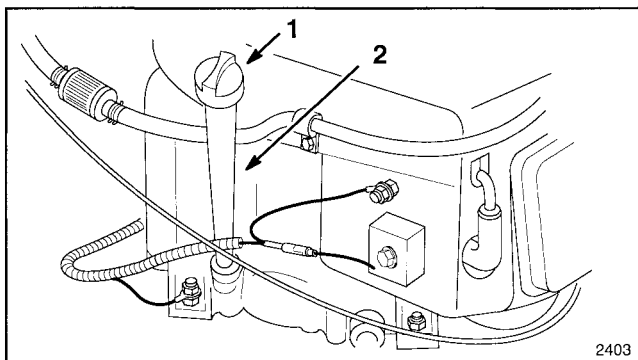

Figure 11
3. Unscrew the dipstick (Fig. 11).
4. Slowly pour approximately 4 pints of oil into the filler neck (Fig. 11). The engine uses any high quality detergent oil having the American Petroleum Institute —API— “service classification” SE, SF, or SG. The recommended oil to use is SAE 30 above 40°F and 10W30 or 5W40 below 40°F.